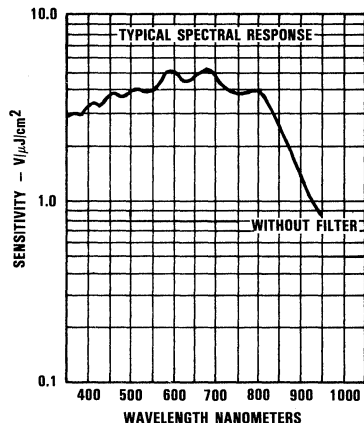

Fig. 3. Typical Sensitivity vs Wavelength
- Improved spectral response in the lower wave length (blue) regions (Fig. 3).